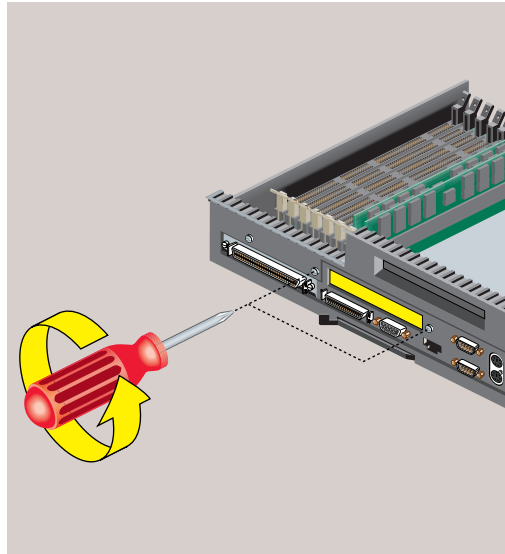

Figure 2-35 Removing the I/O Filler Panel
- Use a Phillips screwdriver to remove the two screws that hold it (Figure 2-35).